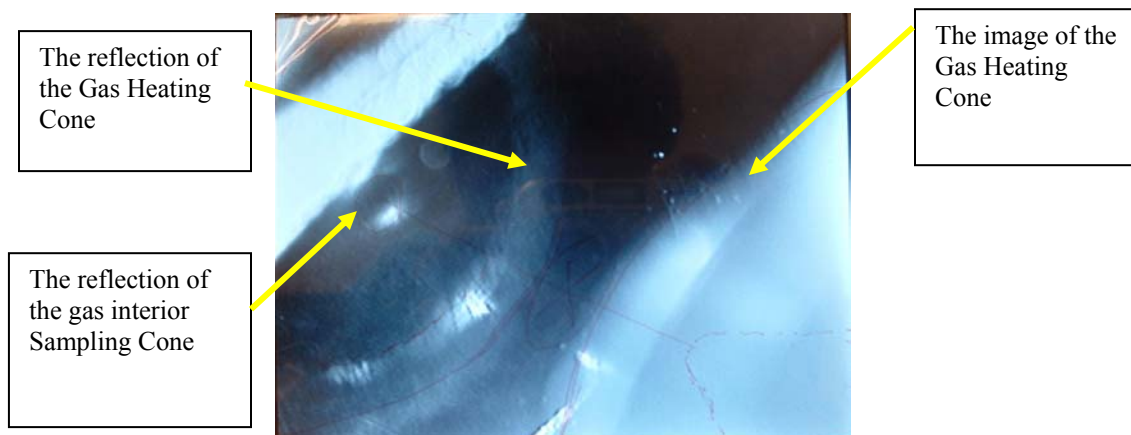
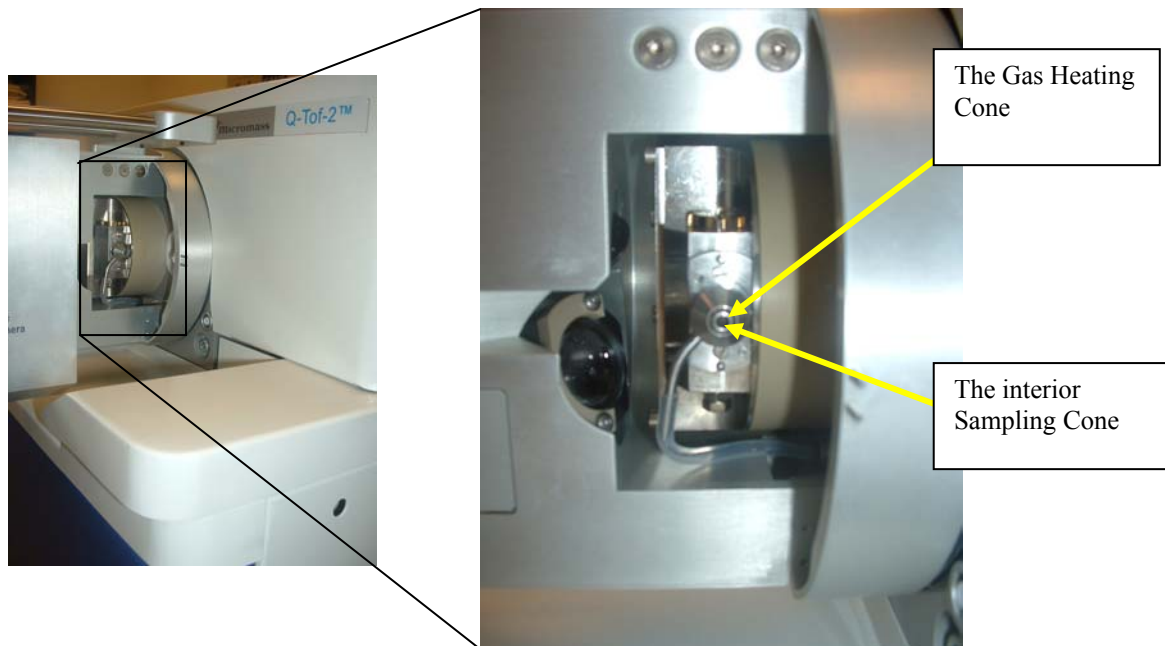

FIG. 51 Image of Gas Heating Cone and its reflection as seen with a blank Target spot on the TV screen
FIG. 52. The Gas Heating Cone and Sampling Cone that are seen on the TV screen in FIG. 51
Step 1. First, you need to determine if the source is misaligned or not. Prepare several target spots with 1-2 μL of undiluted matrix (it could be either pure matrix solution or matrix/any analyte mixture). After drying, insert the target plate into the source, close it, switch it ON (if it was not switched before) and run the Target software (if this was not done already). Choose any empty (blank) target position. The picture on the CCD screen should look as shown in FIG. 51, with the corresponding cones shown in FIG. 52 for clarity: